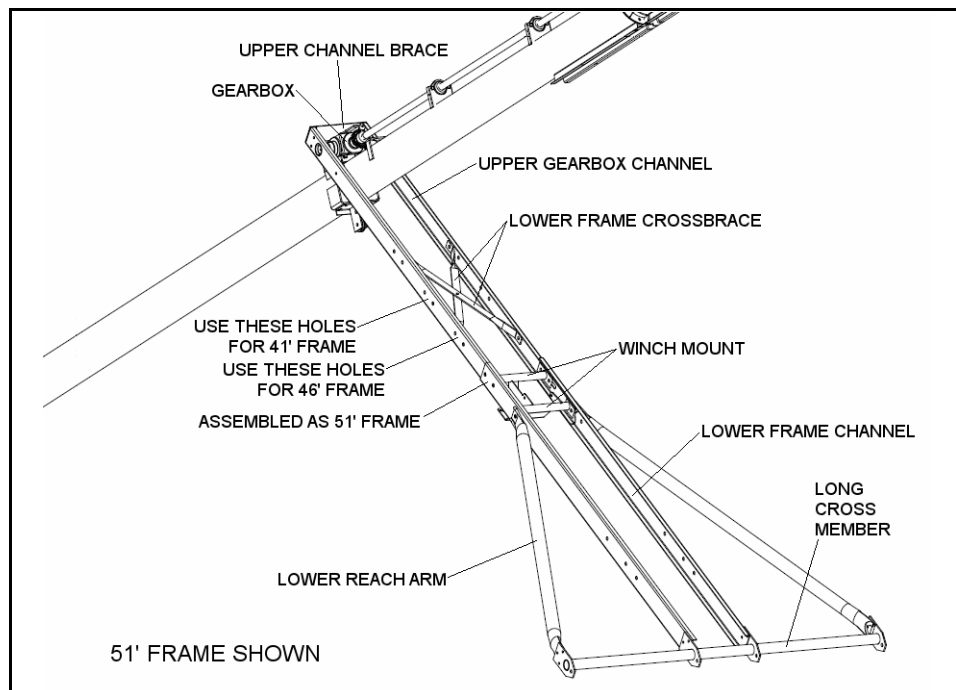

Figure 3.13 41', 46', and 51' Lower Frame Assembly
2. Attach upper channel brace onto the end of the upper gearbox channel at gearbox with four $7/16 \times 1-1/4$ " bolts and locknuts; hand-tighten only (Figure 3.13).
3. Install lower reach arms on frame using $5/8 \times 2$ " bolts (Figure 3.13). Let other end of reach arms rest on ground.
4. Attach long crossmember to bottom of lower frame channels and lower reach arms with twelve $7/16 \times 1-1/4$ " bolts and locknuts. Ensure all nuts face inside of frame (Figure 3.13).